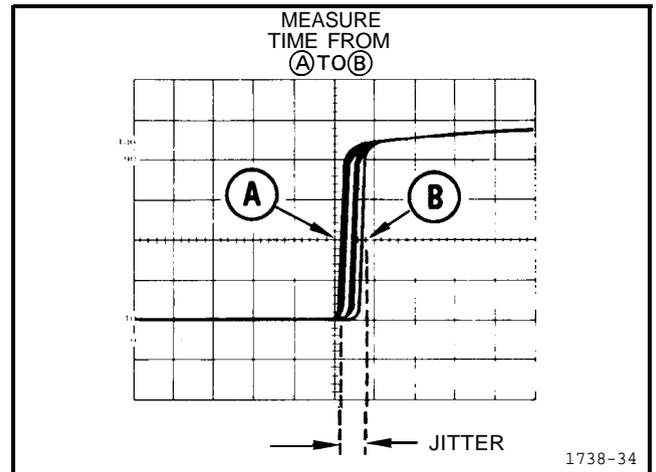

Figure 21. Pulse jitter.
2. Referring to Figure 21, measure the difference between Point A and Point B in divisions and calculate the pulse jitter time using the following formula: